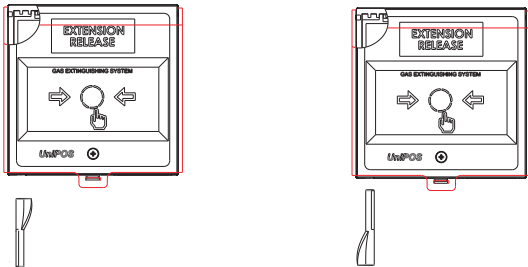

Fig.3
1. Testing – insert the spiral end of the test key into the opening (fig.3) and press to end. The glass element should fall. The button is activated.
2. Enabling – insert the flat end of the test key into the opening (fig.3) and press to end. The glass element should move to its initial position.